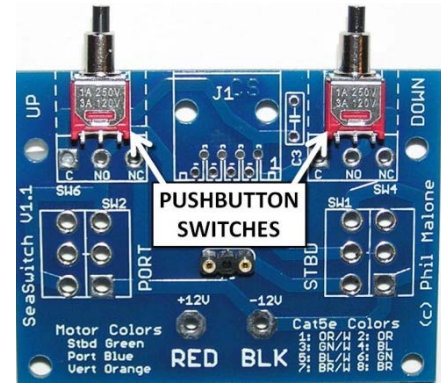

Figure 3.3-2: Pushbutton Switches Installed in the "SW3" and "SW5" Locations
- Place the pins of the two **pushbutton switches** through the pads in the PCB at the locations labeled "SW3" and "SW5," as shown in Figure 3.3-2, after making sure that their pins are all straight (perpendicular to the switch body). [You may have larger switches than shown, which fit instead into the other set of three holes at the "SW4" and "SW6" locations.] While holding the switches in place with a piece of electrical tape, flip the PCB over and place it on a tabletop. *Press down on the PCB to hold the switches flat against the board,* and solder all connections on each switch.